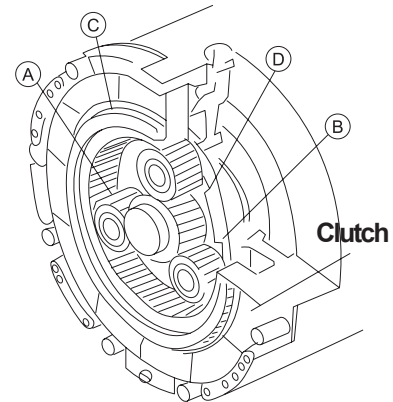

Figure 3-15
3.4.1 PLANETARY GEAR MECHANISM'S PRINCIPLE AND CLUTCH MECHANISM**Planetary gear's operating principle (See figure 3-15)**